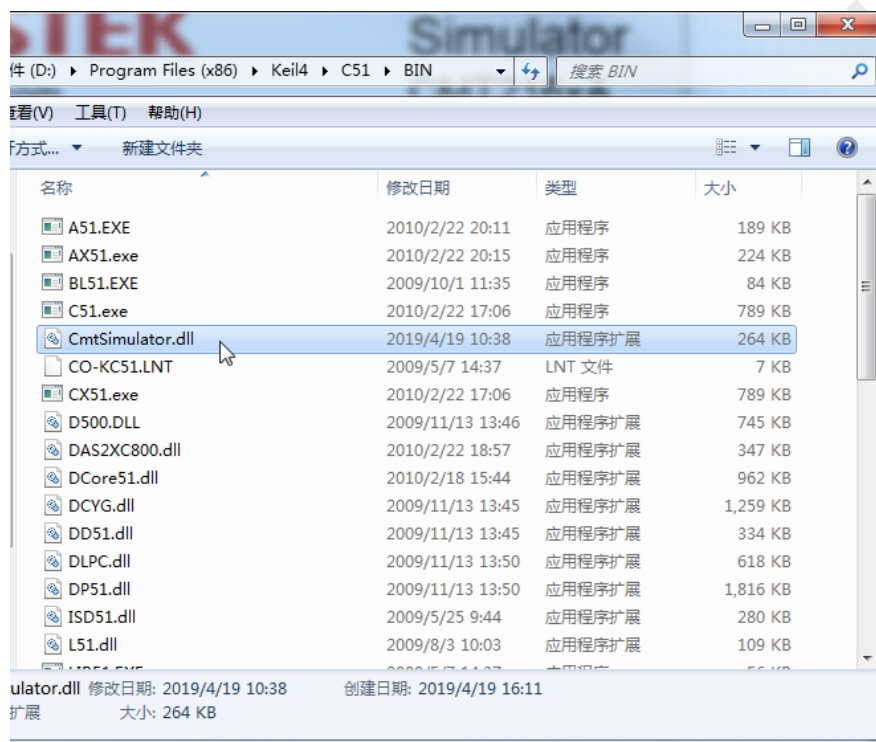

Figure 2-4. Copy the CmtSimulator.dll Driver File
- Step 1: Copy the CmtSimulator.dll driver file to the Keil installation directory under the path: "...\\Keil\\C51\\BIN\\", as shown in Figure 2-4. This DLL file is a library file for the Keil IDE environment driver Simulator debugger.